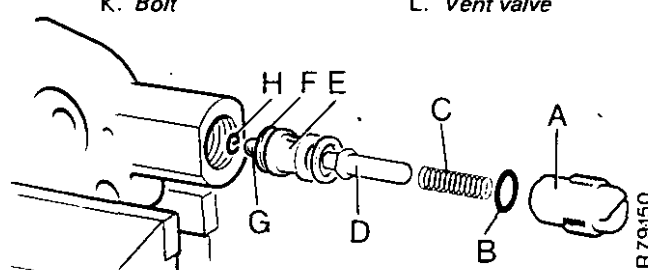

FIGURE 35. DISASSEMBLY OF THE VENT VALVE
1. Carefully hold the vent valve in a vice as shown in Figure 35. Do not tighten the vice too much.